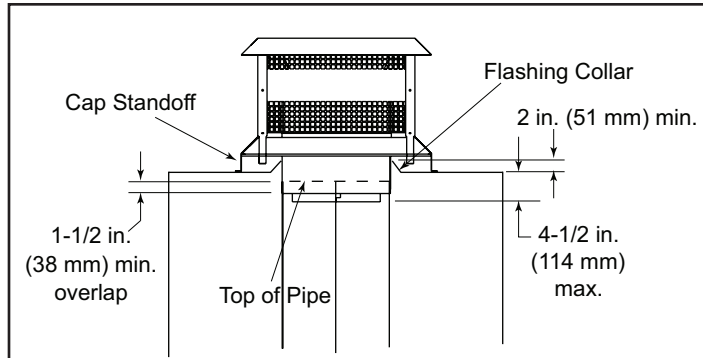

Figure 6.5 Installing an ST475 Square Termination Cap
- For installations utilizing an ST475 Square Termination Cap the last chimney section must not be more than 4-1/2 in. (114 mm) below the chase top. See Figure 6.5.